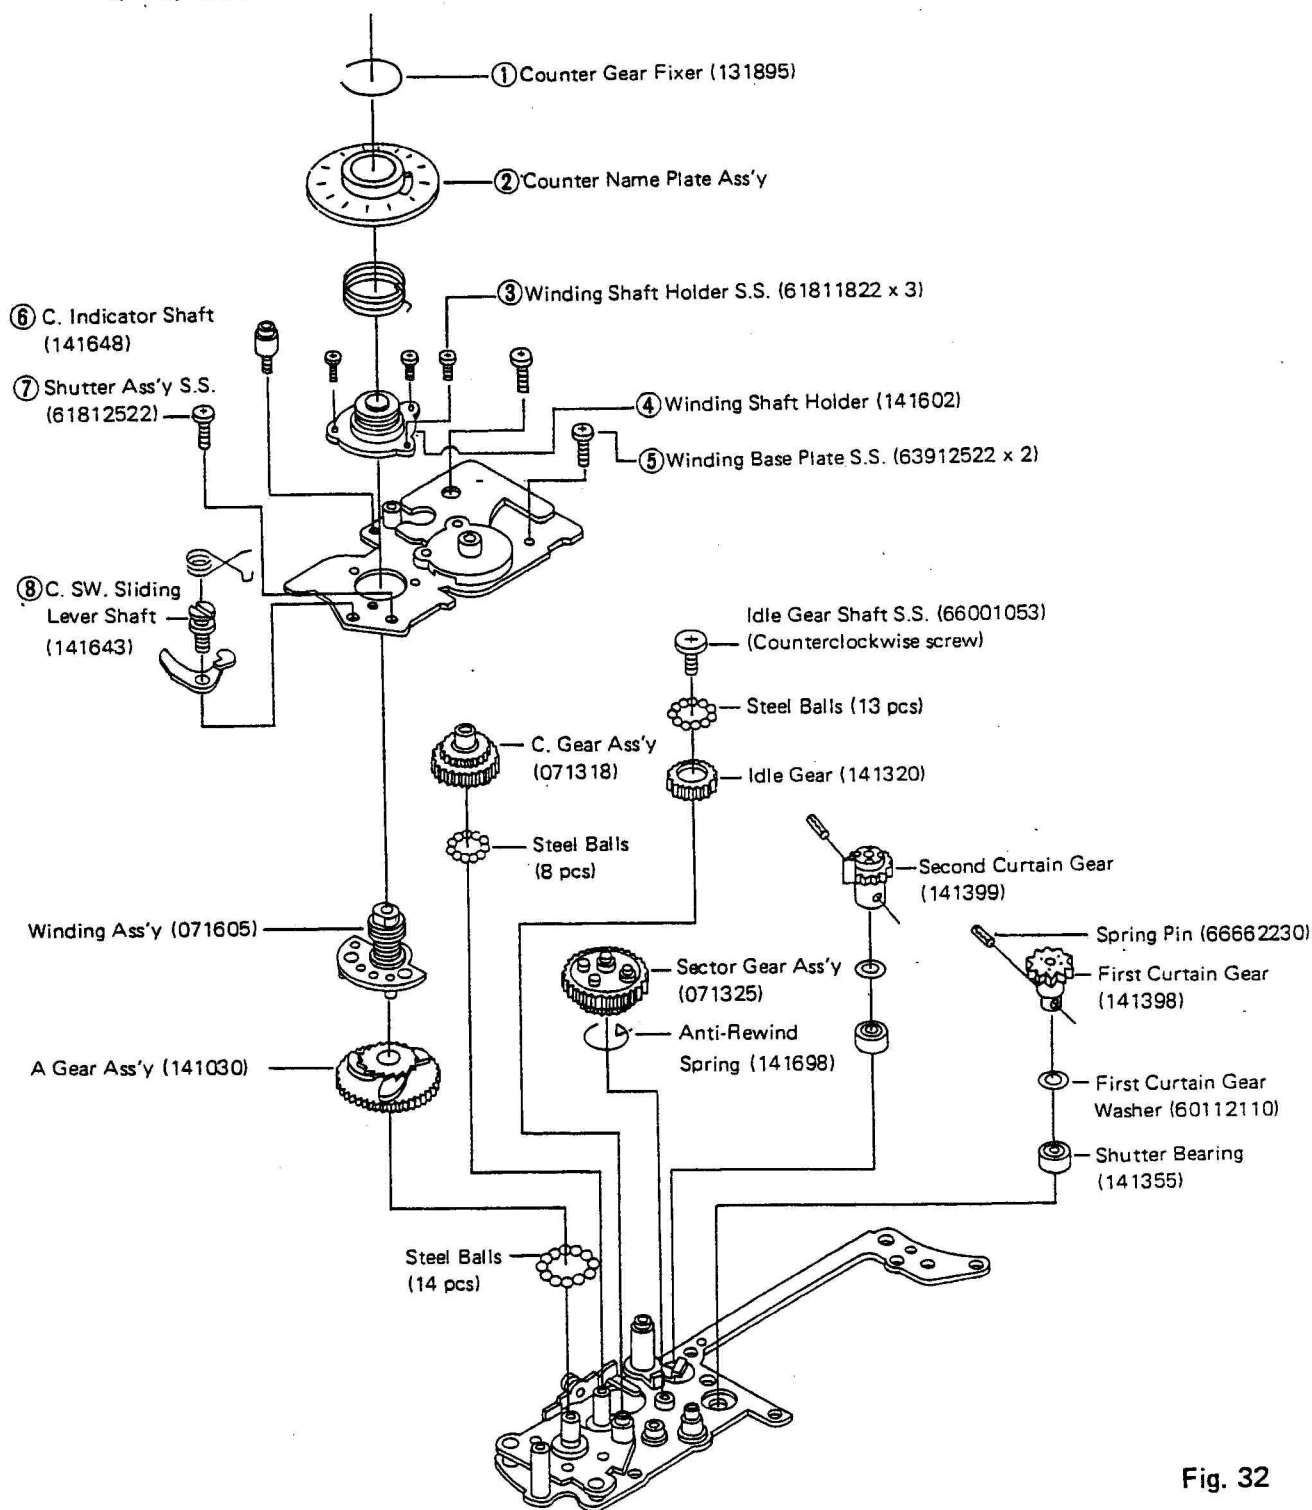

Fig. 32
(1) Disassembling
- Remove the respective parts ① ~ ⑧ shown in (fig. 32) in numerical order.